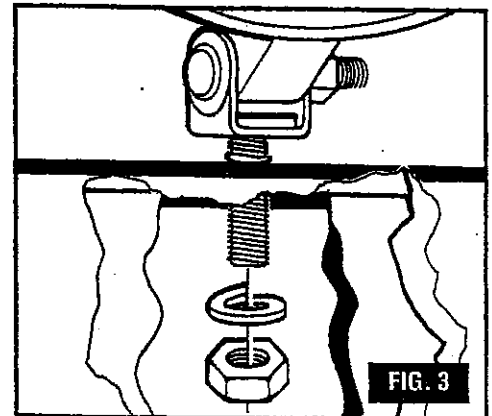

FIG. 3
3. Attach lamp base to bumper. Do not tighten completely until lamp is properly aimed. (See Fig. 3)